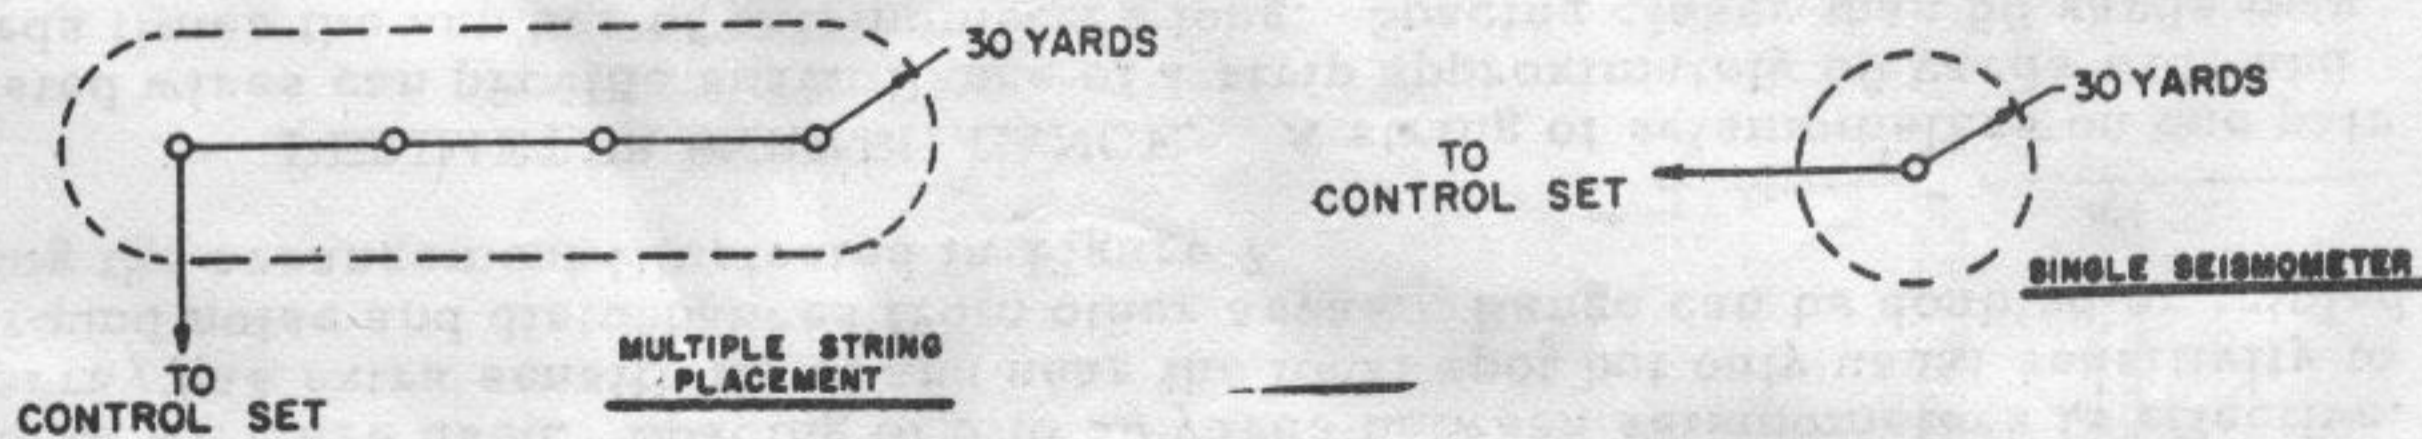

Figure 7. Seismometer Site Selection and Sensor Array Arrangement
3.3 SITE SELECTION (FIGURE 7)
If combat-type wire is being used, care must be taken to insure that the proper connections are being made; untwisting the wire will be the most rapid means since short lengths of wire are used. Spacing of 5 to 50 yards between seismometers is effective. This array has extra sensitivity at and near the focal spot but only usual sensitivity to background noise and disturbances from other areas. Range can be doubled or tripled by using the arrangement illustrated in Figure 7.